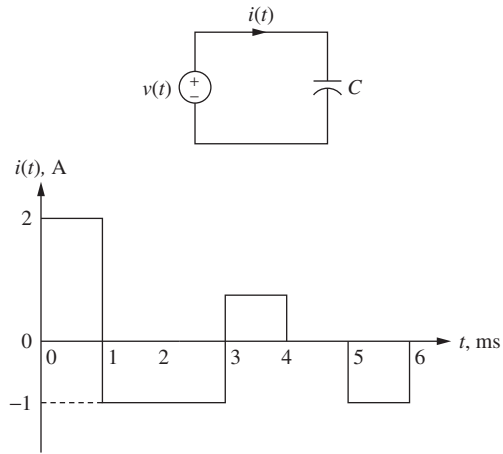

Figure P8.24 Current flowing through a capacitor for problem P8-24.
- 8-24.** The current flowing through the capacitor is given in Fig. P8.24. Knowing that $i(t) = \frac{dq(t)}{dt} = C \frac{dv(t)}{dt}$, sketch the graphs of the stored charge $q(t)$ and the voltage $v(t)$. Assume $C = 250 \mu\text{F}$, $q(0) = 0$ C, and $v(0) = 0$ V.